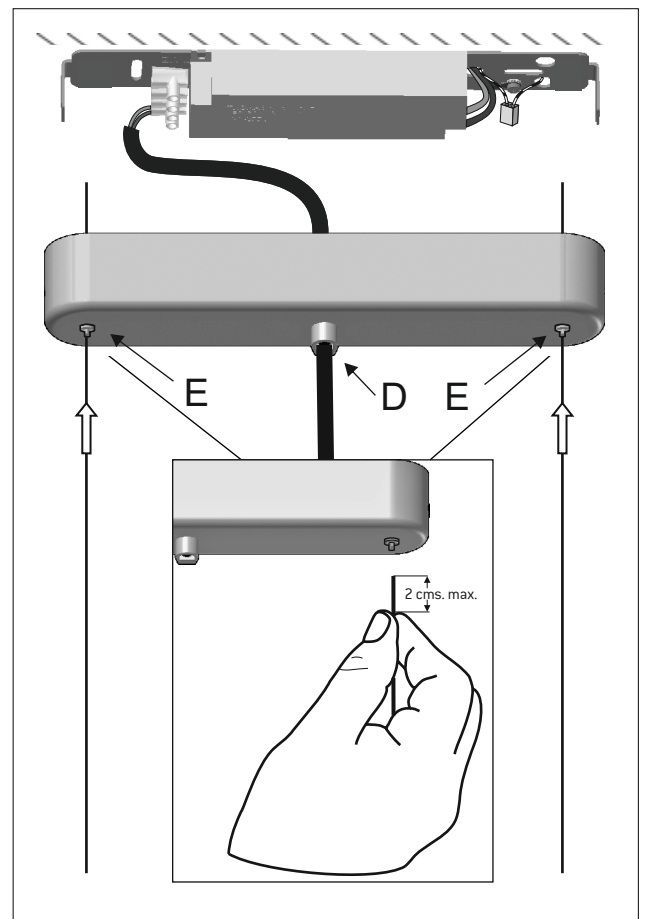
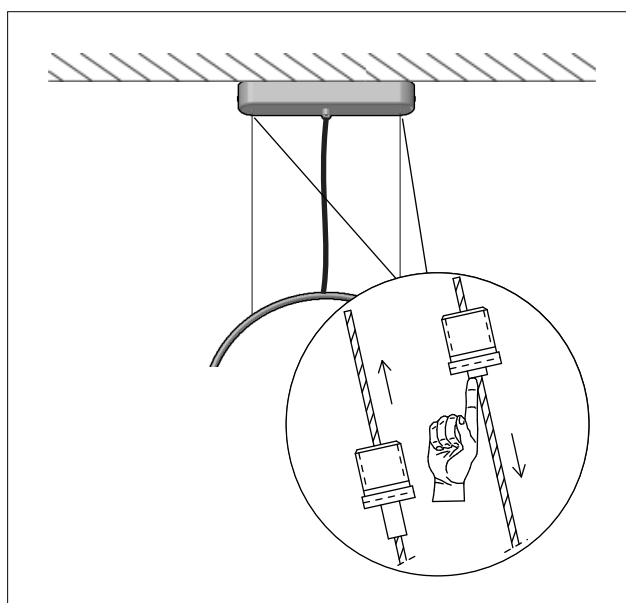
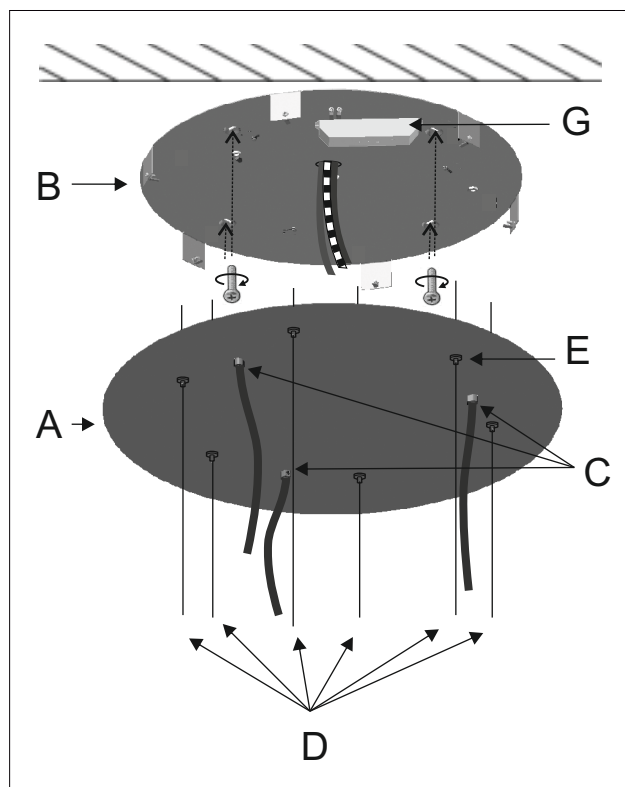
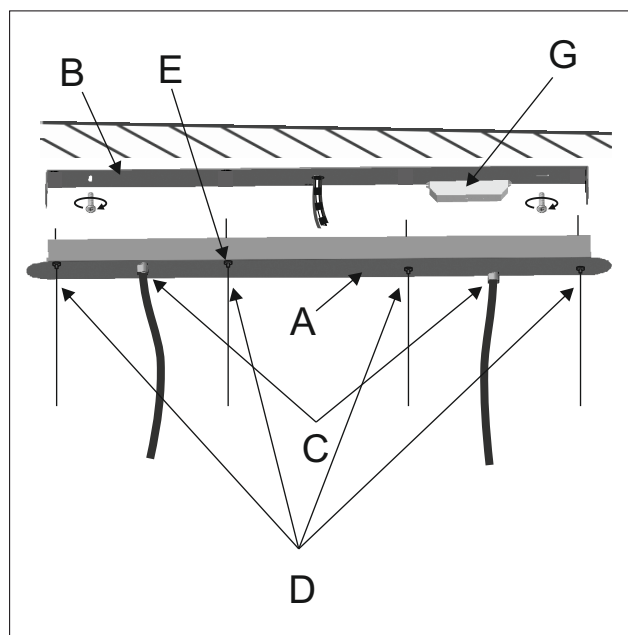

Figure 3
Figure 6
Figure 1
Figure 1
3 - Press the clamps (E) and introduce the steel cables. In order to make the introduction of the cable easier, do not allow more than 2cm between its tip and your thumb. Consult functioning of the clamps in Figure 6. Adjust the lamp's height (E). Adjust the electrical cable's length with the fastener (D). Figure 3.
Consult the functioning of the clamps in the following diagram. Figure 6.
Para conseguir menos longitud de cable empujar el cable hacia arriba y para aumentar la longitud presionar el mecanismo del pinza-cables. Manteniendo el mecanismo presionado, el cable se mueve libremente. Cuando se ha conseguido la longitud deseada, soltar el mecanismo y el cable queda fijo. Es aconsejable sujetar el cable con la otra mano para evitar una caída brusca de la lámpara. Figure 6.
To shorten the cable, push the cable upwards; to lengthen the cable, press the small knob of the clamps. Once the knob is pressed, the cable is released for adjustment. Once the knob is released, the cable is again secured. We recommend holding the cable with the other hand to avoid the lamp falling down abruptly. Figure 6.
Press the clamps (E) and introduce the Aircraft cables. In order to make the introduction of the cable easier, do not allow more than 2cm between its tip and your thumb. Consult functioning of the clamps in Figure 6. Adjust the electrical cables' length with the fasteners (C). Figure 1.
Adjust the height of the lamp with the clamps (E) in Figure 1.
Press the clamps (E) and introduce the Aircraft cables. In order to make the introduction of the cable easier, do not allow more than 2cm between its tip and your thumb. Consult functioning of the clamps in page 3, Figure 6. Adjust the electrical cables' length with the fasteners (C). Figure 1.
Re-adjust the height of the lamp with the clamps (E) in Figure 1.